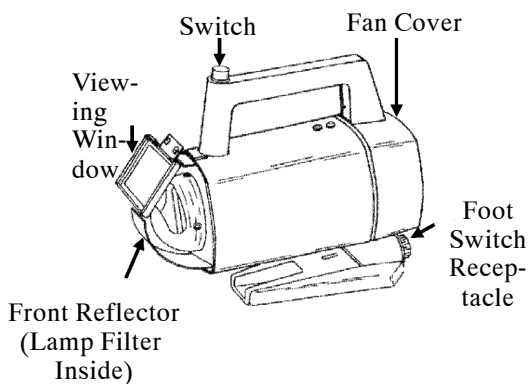

Figure 1. Infrared Heating Tool, IR-550 Mark II
7. Infrared heating tool, IR-550 Mark II (Figure 1), is a portable electric heating tool designed for fast reliable installation of solder devices and other heat shrinkable products. It can be used as a hand tool or as a bench heater. As a hand tool, it is operated by a switch on the handle; as a bench heater, it is operated by a foot switch or the handle switch. This tool provides an unobstructed view of work in process and quiet, hands free operation. Instant on/off heat is generated by an optically filtered, commercially available tungsten-halogen lamp. Reflectors focus the heat from the lamp, concentrating heat energy within the work area of the front reflector. Optical filter between the lamp and the work area eliminates glare from the lamp, allowing the operator to observe the heating process. Tool is also equipped with a viewing window to ensure operator eye comfort. These features minimize operator errors and fatigue, significantly reducing installation time and costs. Specifications are listed in Table 1.
8. **PRE-OPERATION.** Prior to using infrared heating tool (Figure 1), proceed as follows:
11 . **POST-OPERATION.** After using infrared heating tool (Figure 1), proceed as follows: